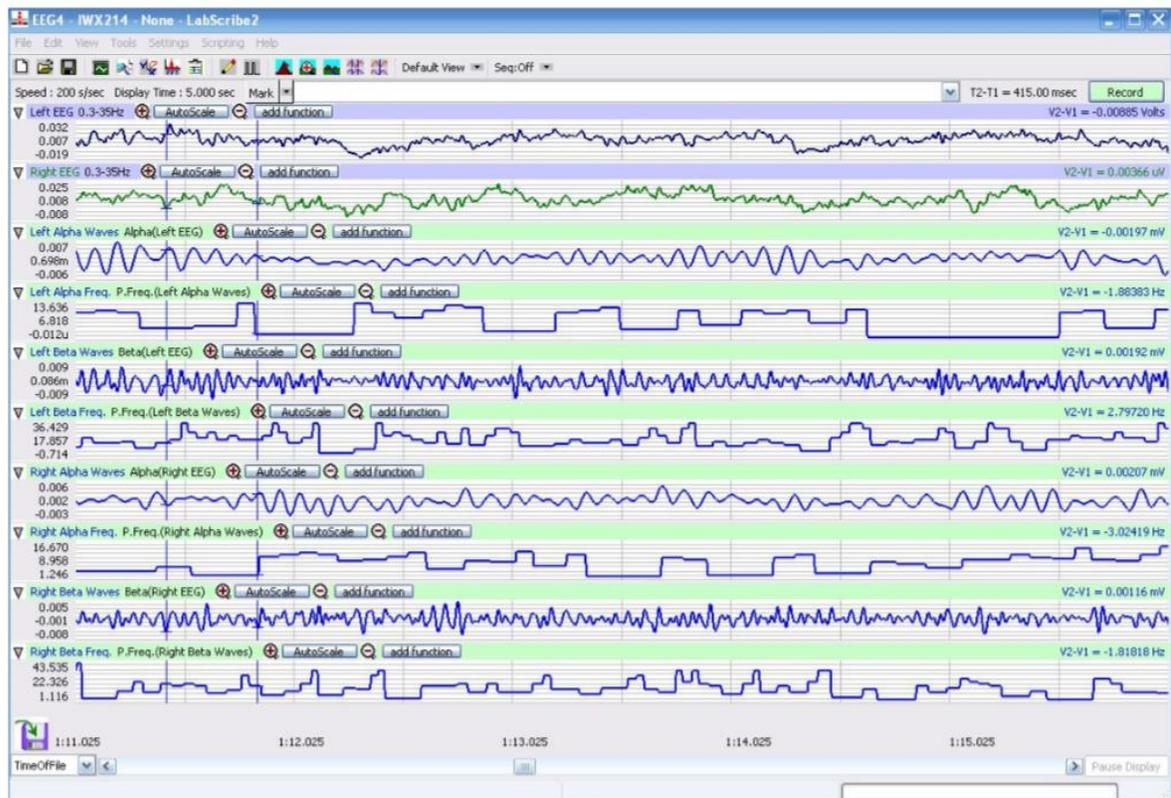

Figure: 2 EEG recording showing both the right and left hemispheres at the same time
3. Click on the AutoScale buttons at the upper margin of all the channels. Your recording should look like Figure 2